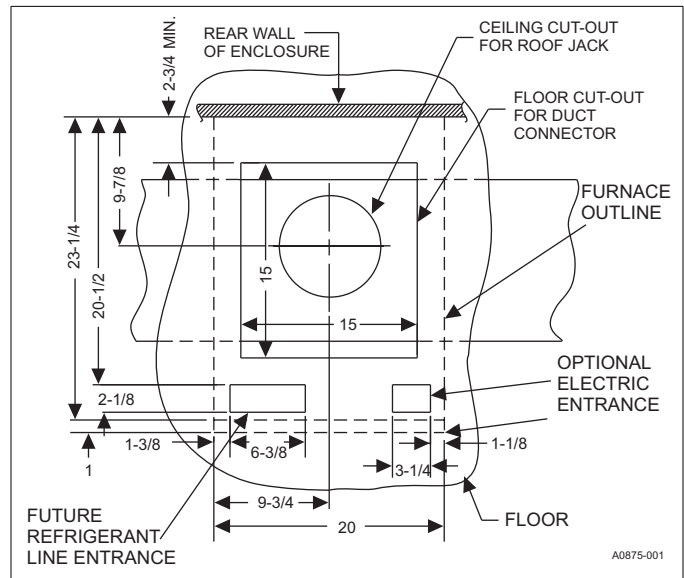

FIGURE 6: Recommended Floor Cut-Out (7990 Series)
1. Make floor cut out as shown in Figure 6.